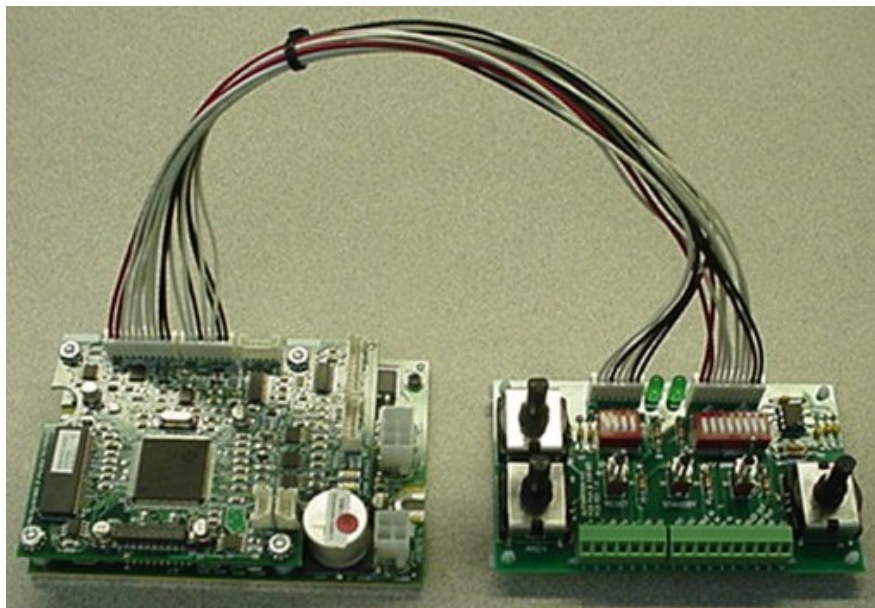

Figure 1
1. Connect wire harness part number 1002119 for the ACS100, 200, or 300 as follows, see *figure 1 above*.